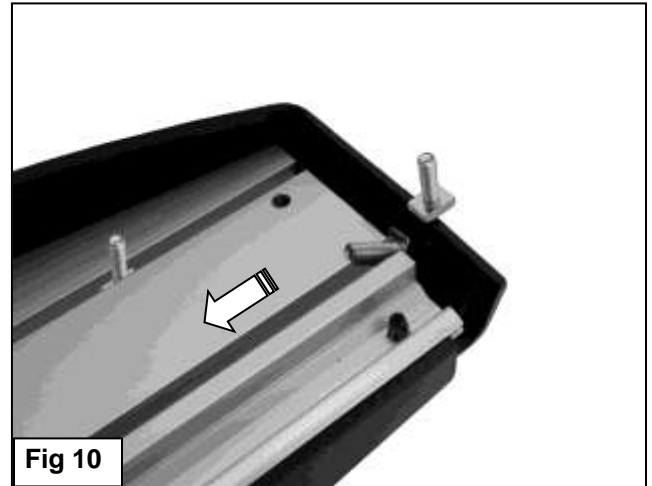

Fig 10
5. Carefully unwrap the Running Boards. From either open end, slide (3) T-Bolts into each channel in the bottom of the Running Board, **(Figure 10)**. Slide the T-Bolts forward or back to line up with the slots in the (2) previously installed Mounting Brackets. Hold the Running Board up to the vehicle at a slight angle and gently push it into position against the rocker panel. Insert the T-Bolts through the slots in the Brackets, **(Figure 10)**.